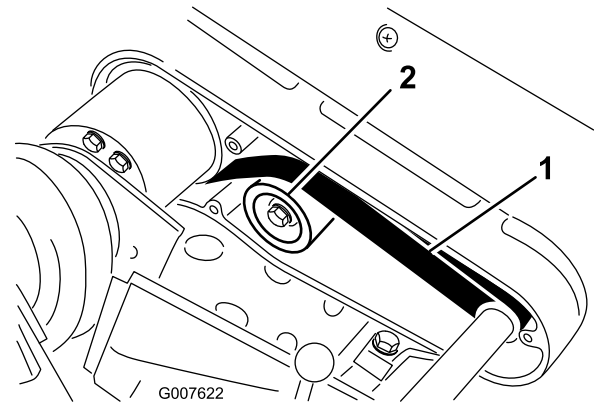

Figure 28
2. Check the tension by pressing the belt at mid span of the pulleys (Figure 28) with 4 to 6 lb of force. The belt should deflect 1/4 inch (0.63 cm).
- A. Loosen the idler pulley mounting nut and pivot the idler pulley clockwise against the backside of the belt until the desired belt tension is attained (Figure 28).